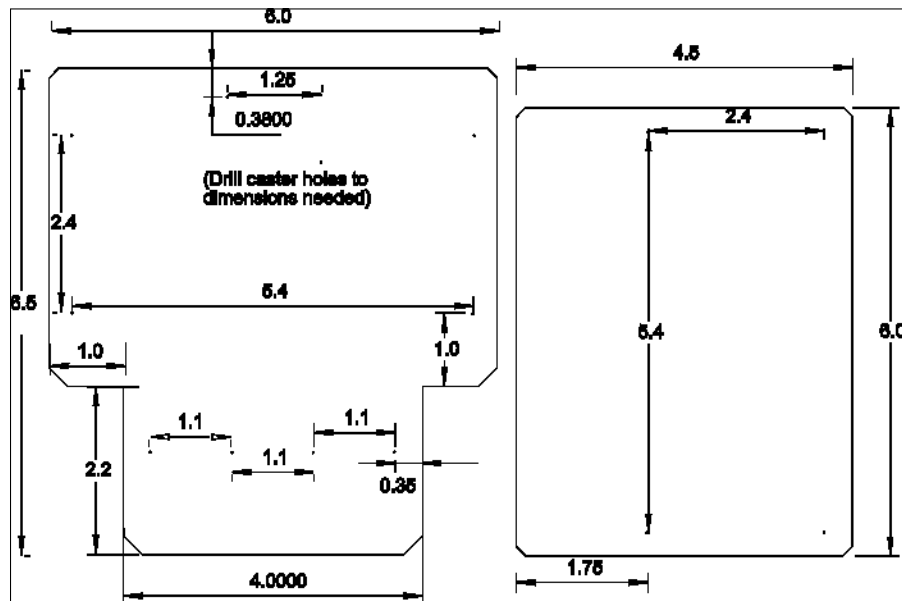
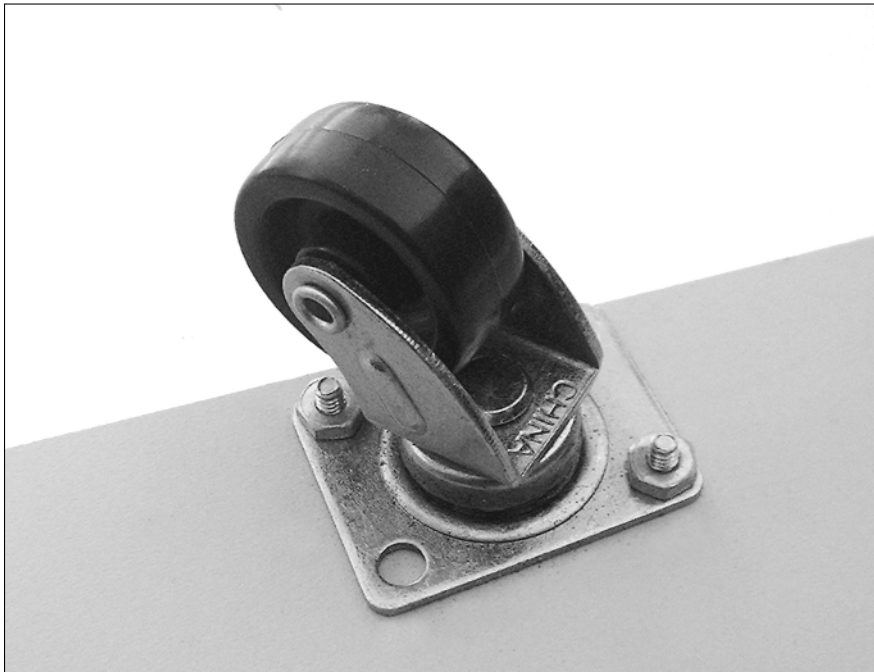

Figure 15-1:
Figure 15-7:
Figure 15-1 shows the cutting and drilling template for Rover, a two-deck tabletop robot. The dimensions used in this template are measured in inches.
The first step in the building process is to use the robot layout from Figure 15-1 to drill holes for mounting parts, and then cut out the deck pieces.
- 1. Lay out the holes and cutting dimensions from the template in Figure 15-1 directly on the wood or plastic material. Or better yet, draw them first on a piece of paper, then tape the paper over the wood or plastic material you are using for the decks.**
You attach the caster by using 6-32 by $\frac{1}{2}$ -inch machine screws and nuts, as you can see in Figure 15-7. The drilling holes in the layout (see Figure 15-1) differ in size and spacing depending on the model of caster that you use. Your best bet is to trace the holes that you need to drill by using the caster base plate as a guide.